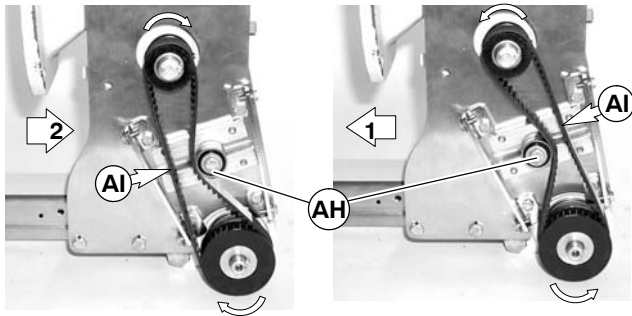

Figure 27
4. Install new timing belt (L).
- Depending on conveyor belt travel (direction 1 or 2 of Figure 27), locate timing belt tensioner (AH) as shown. Do not tighten tensioner screw.